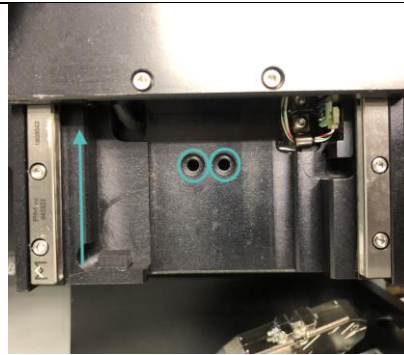

Fig 2. Adjust secondary stage to expose two screw holes for short side of primary stage lock
- Align the holes on the short face of the stage lock with the holes of the primary stage (Fig 2).
- Using the hex tool, install both button head screws, hand tight (Fig 2).